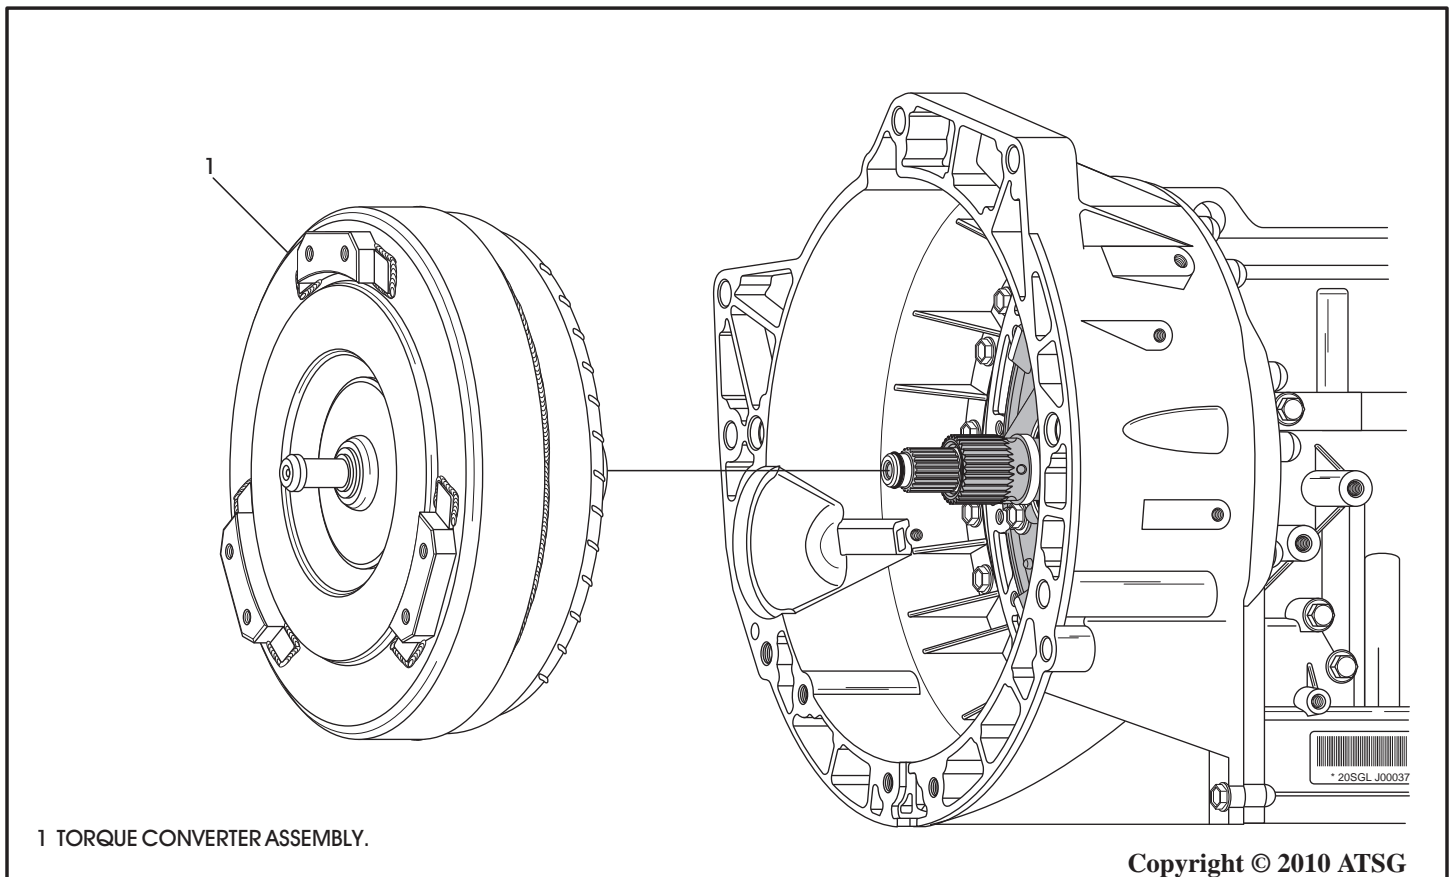

Figure 38
3. Remove torque converter from transmission, as shown in Figure 38.